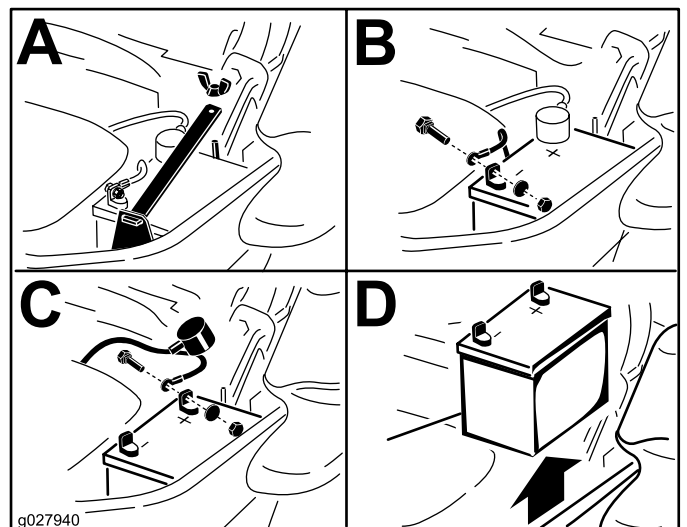

Figure 55
3. Disconnect the negative battery cable (black) from the negative (-) battery terminal (Figure 55).
4. Slide the red terminal boot off the positive (red) battery terminal, and remove the positive (+) battery cable (Figure 55).
5. Remove the wing nut securing the battery clamp (Figure 55).
6. Remove the clamp (Figure 55).
1. Position the battery in the tray with the terminal posts opposite from the hydraulic tank (Figure 55).
4. Secure the cables with 2 bolts, 2 washers, and 2 locknuts (Figure 55).
6. Install the clamp and secure it with the wing nut (Figure 55).